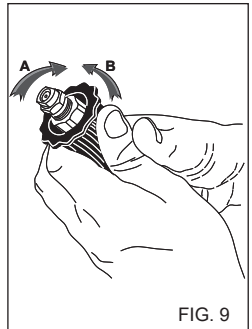

FIG. 9
USING THE ADJUSTABLE HEAD (Fig. 9)
- 2) Start the cleaner, activate the detergent suction control on the lance (fig. 9) and spray the surface to be washed, working from the bottom upwards.